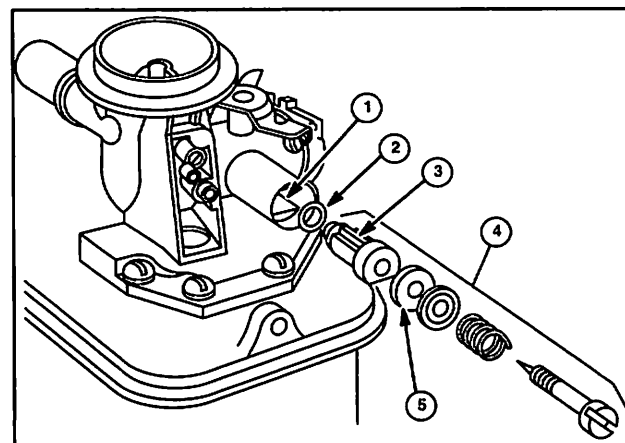

Fig. 49
Pressed-In Type (Fig. 49)
1. To install pressed-in type needle valve assembly, place “O” ring (2) on shoulder of needle seat (3).
2. Turn needle in until large seal washer (5) just touches needle seat, Fig. 49.
3. Assemble needle valve assembly (4) and turn screw until it just touches spring.
4. Install needle valve as an assembly being sure flat on valve seat lines up with flat in carburetor body (1), Fig. 49.